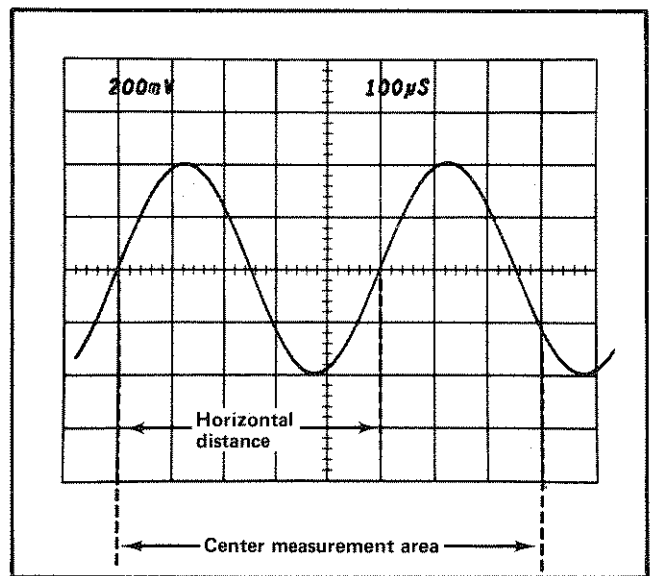

Fig. 2-10. Measuring the time duration between points on a waveform.
**Example.** Assume that the distance between the time measurement points is five divisions (see Fig. 2-10), and the TIME/DIV switch is set to .1 ms with the magnifier at X1. Using the formula:
**Example.** The frequency of the signal shown in Fig. 2-10 which has a time duration of 0.5 milliseconds is: